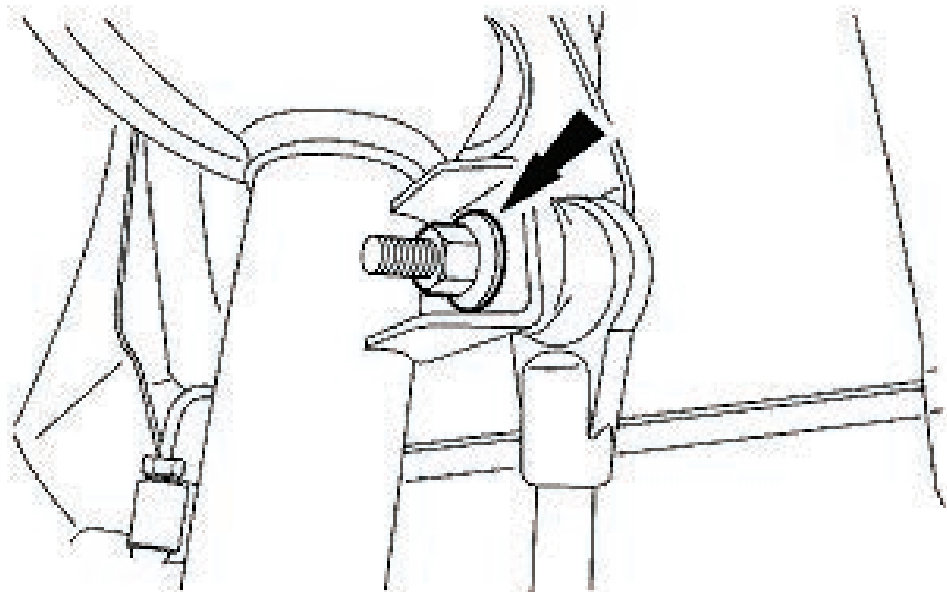

fig. 3
3. Unthread the stabilizer link nut from the strut and free the linkage from the strut (fig. 3).
- If the custom ride height is lower than stock, we recommend loosening all pivot points (bolts, nuts) on any control arm, strut arm or radius rod that contains bushings (figs. 3 & 4). Once they have been loosened, re-torque to stock specifications (Table 1).